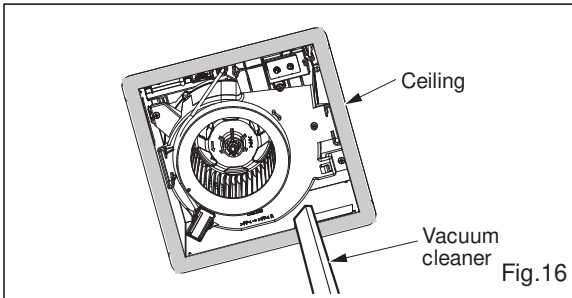

Fig.16
4. Remove dust and dirt from fan body using a vacuum cleaner. (Fig.16)